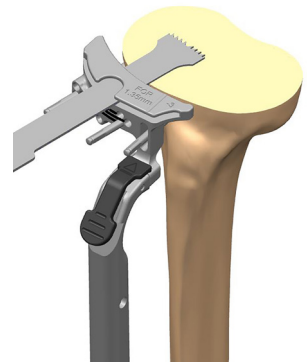

Figure 84
1. Remove the Tibia Stylus. Resect the proximal tibia and remove the cutting guide (Figure 84).